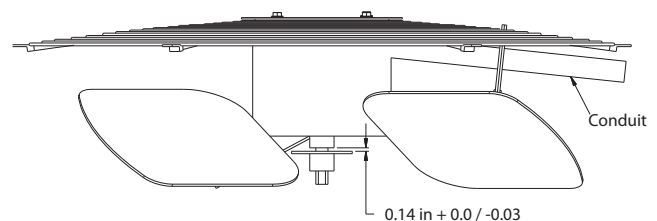

Fig. 27 - Outdoor Fan Adjustment
See Fig. 27.
4. Adjust fan height as shown in Fig. 27.